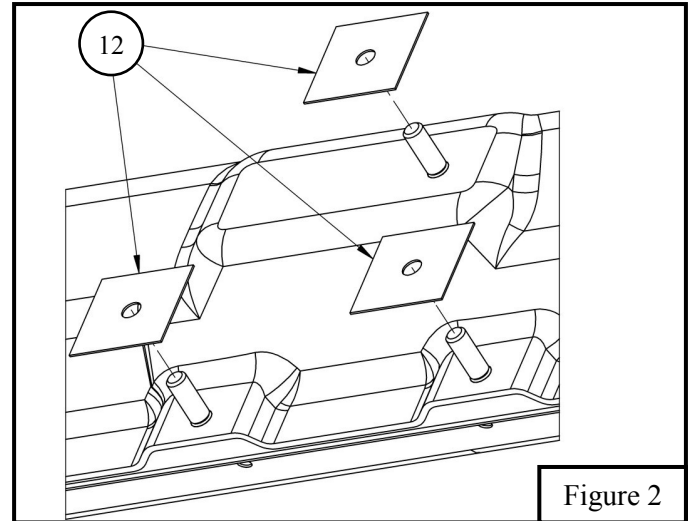

Figure 2
3. Insert (1) M8 Plastic Retainer (Item 12) on each factory stud. See **Figure 2**.